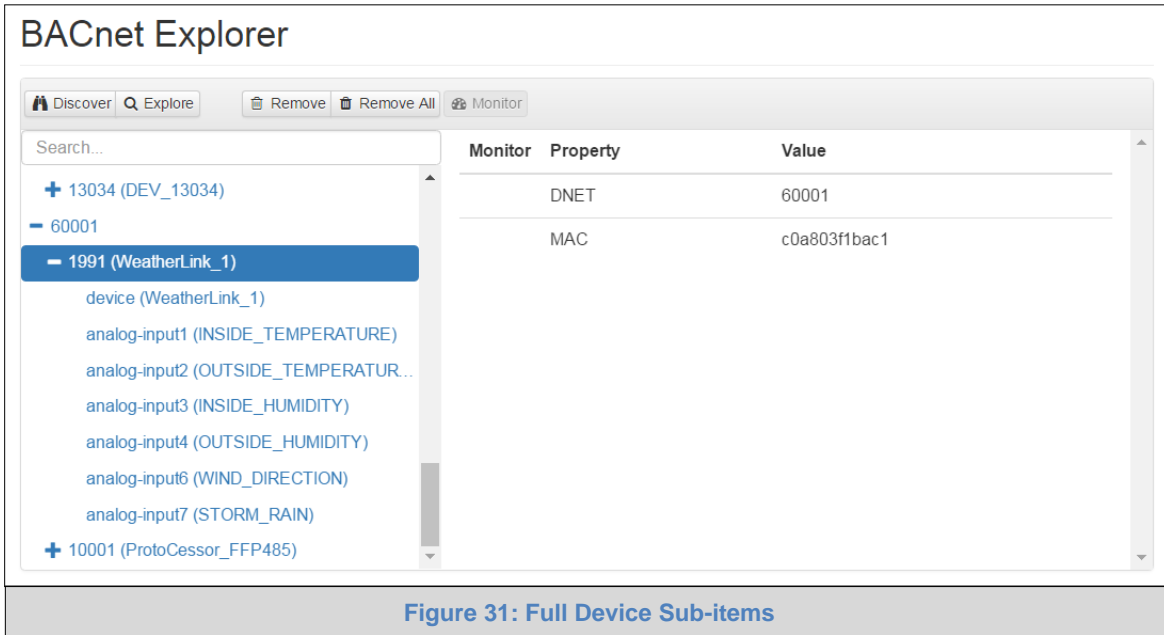

Figure 31: Full Device Sub-items
- To view the full details of a device, go back to highlighting the device directly (in Figure 31 “50001”) and click the Explore button  Explore or double-click the device/object.